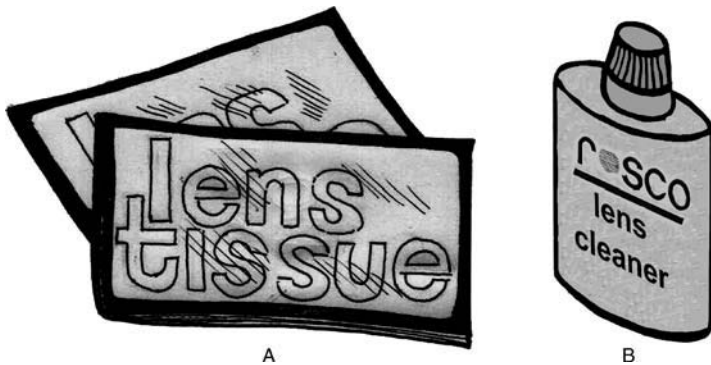

Figure D.20 A, Lens tissue. B, Lens cleaner.
- Lens tissue and lens cleaner (see Figure D.20)